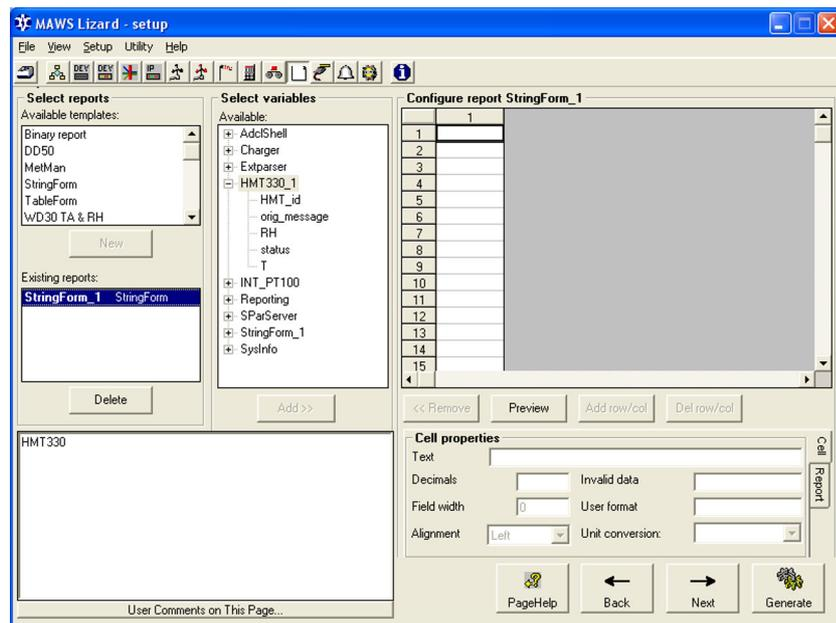

Figure 35 Reports View: Selecting Humidity and Temperature Transmitter Variables
2. Create a new report or select an existing one to include the variables for the HMT transmitter; see Figure 35 on page 78.